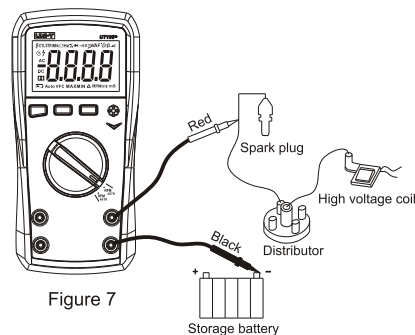

Figure 7
2) Connect the red test lead to “V” terminal, and black to “COM”. Connect the test end as figure 7.